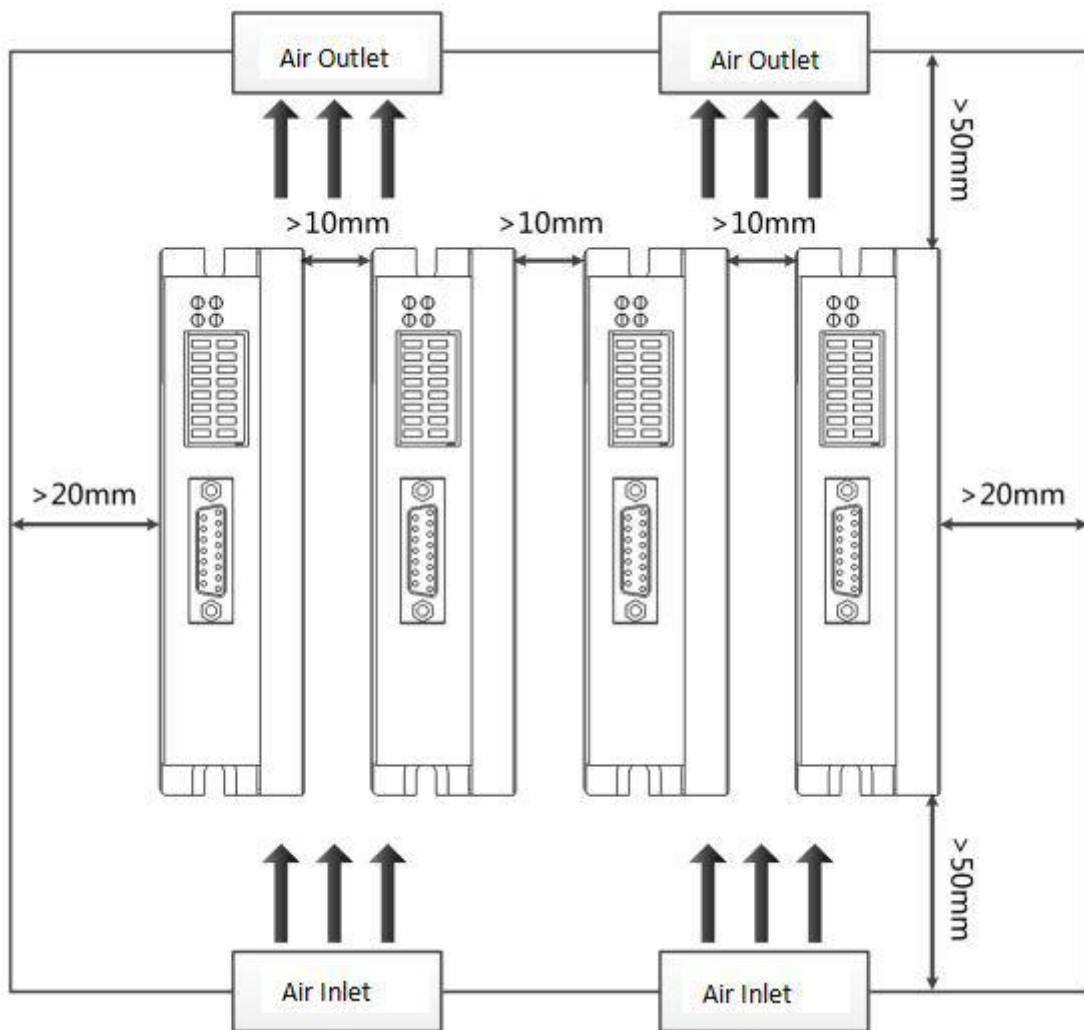

Figure 2-3 Install orientation, distances and clearances
- Please follow menu's all required operation. And refer to figure 2-3 to correctly install servo system.